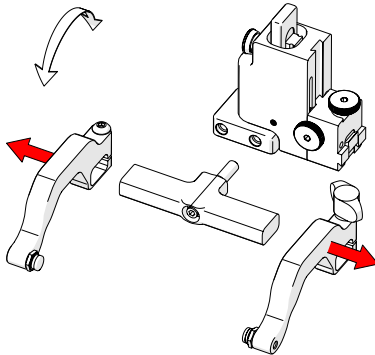

Fig. 82 - Remove probe holder arms
3. Loosen the arm clamp screw and the probe holder arm adjustment knob allowing removal of the probe holder arms (Fig. 82).